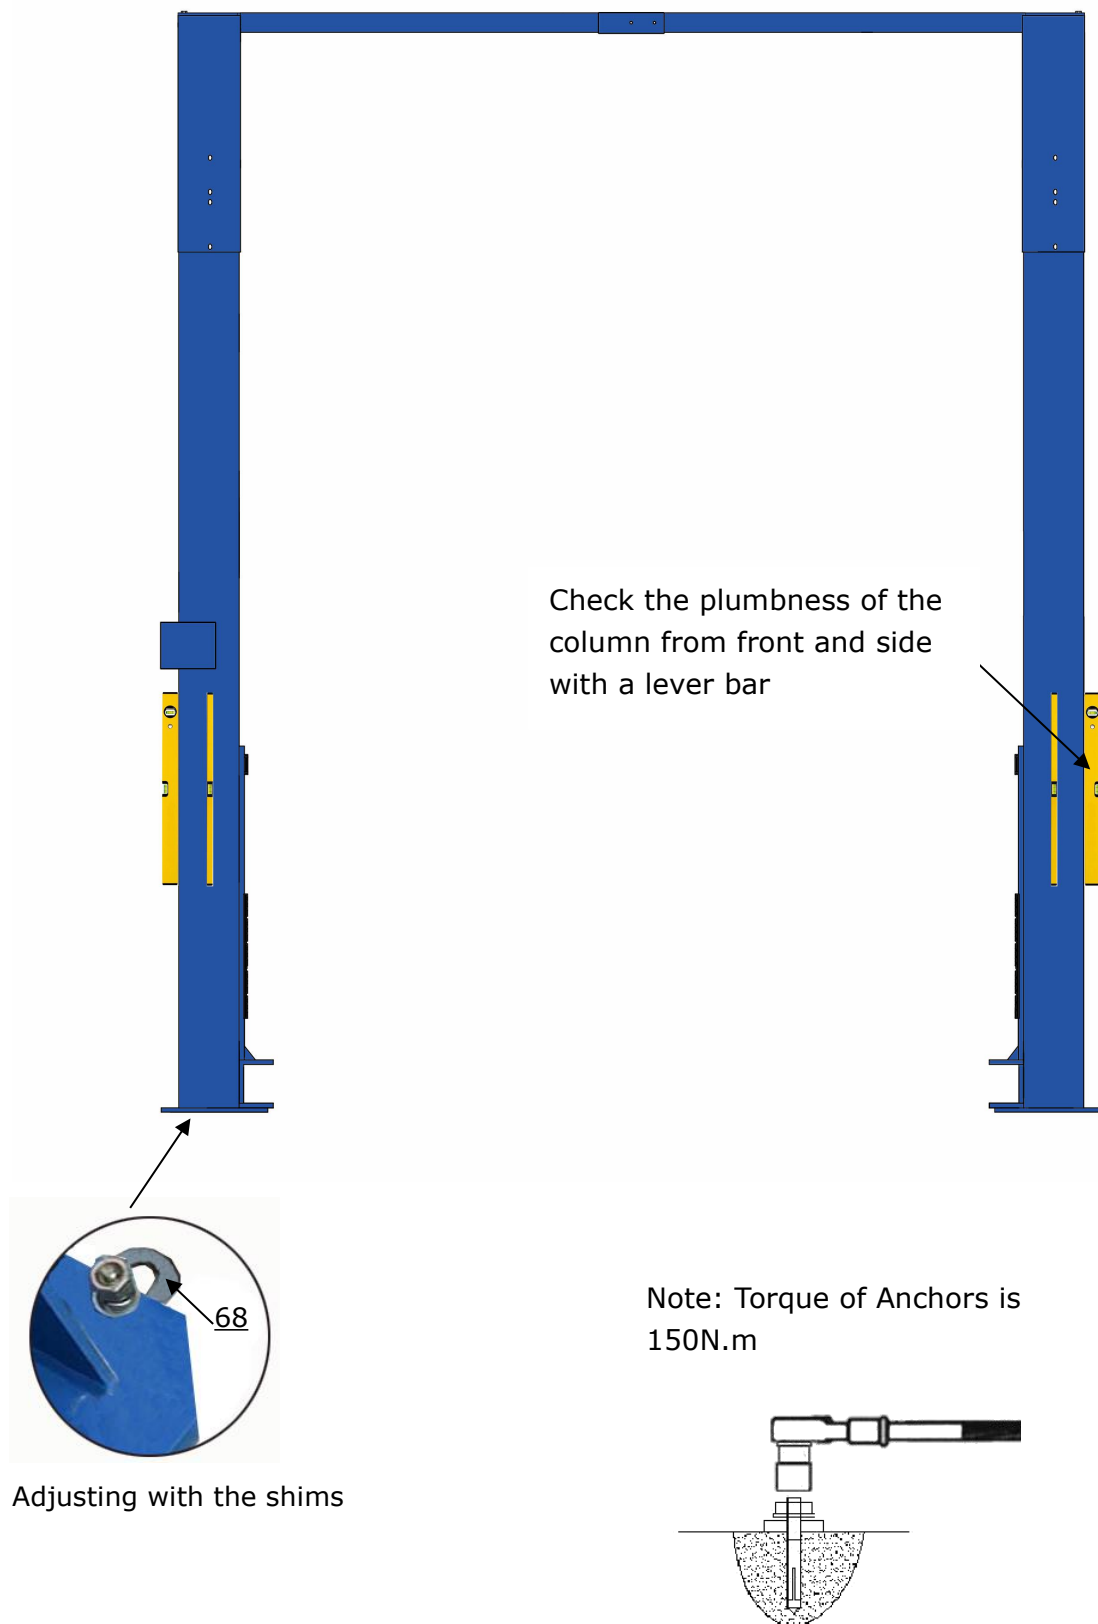

Fig. 16
- G.** Check the vertical of the columns with level bar, and adjusting with the shims if the columns are not vertical. Tighten the anchor bolts (**See Fig.16**).